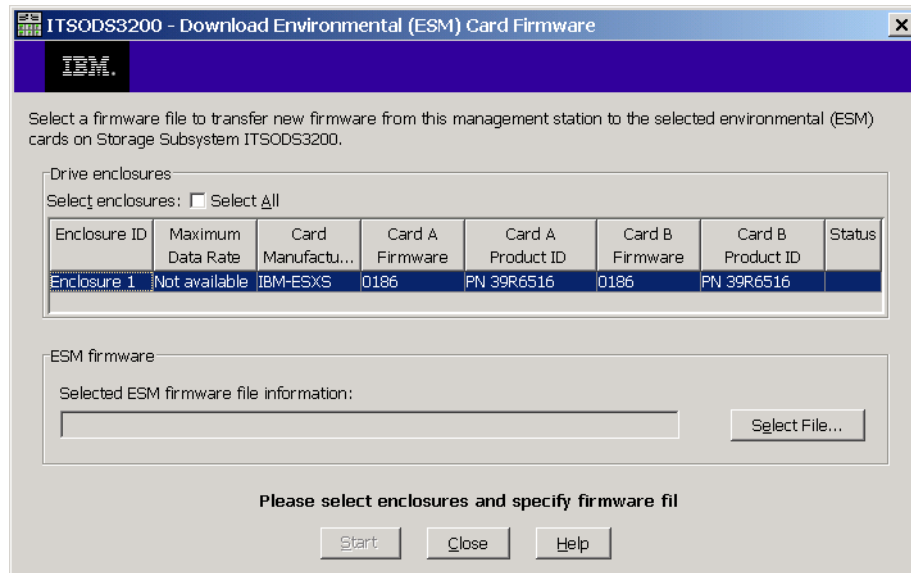

Figure 14-14 Download Environmental (ESM) Card Firmware
1. To update the ESM code, click the **Download Environmental (ESM) Card Firmware** link (Figure 14-12 on page 309). Figure 14-14 shows the window.